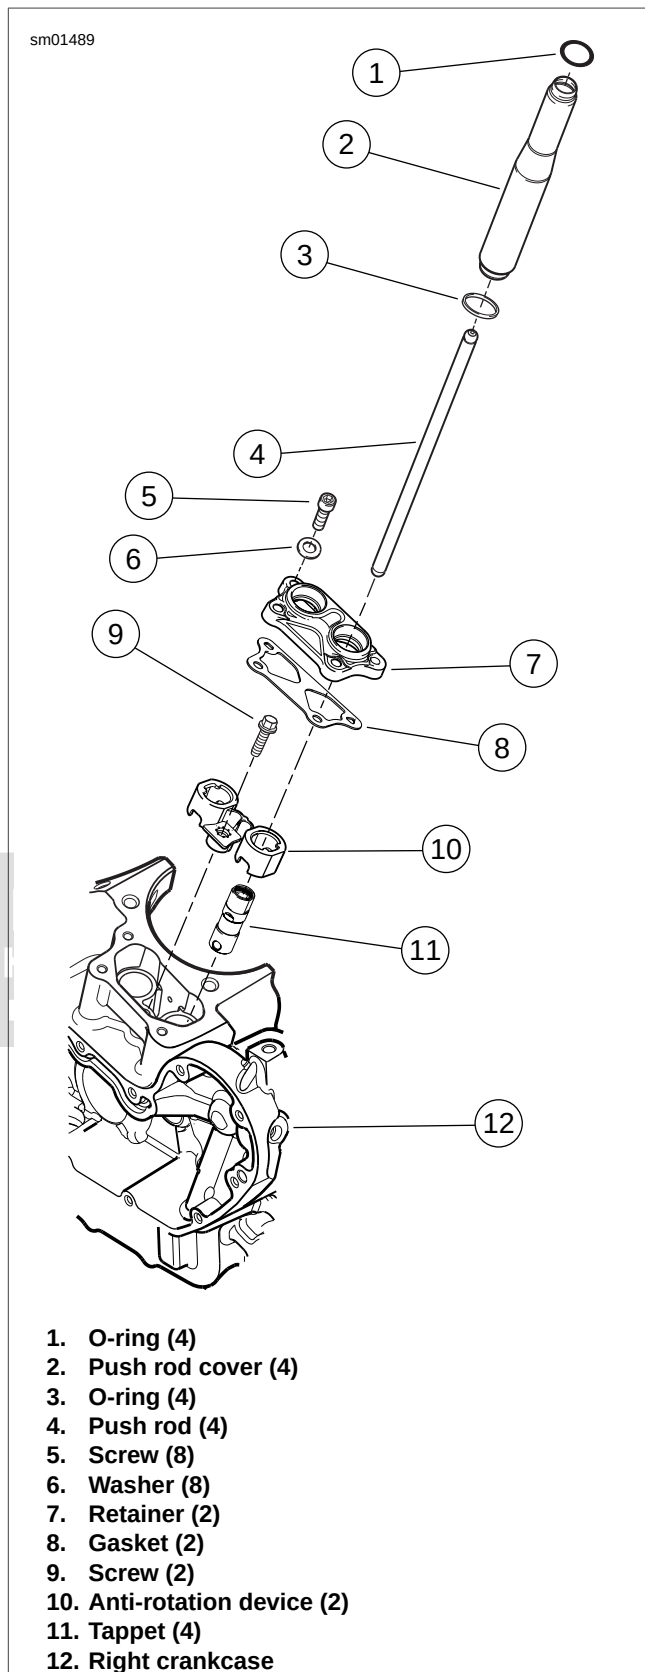

Figure 3-48. Middle Valve Train Components
1. See Figure 3-48. Remove push rod covers (2), o-rings (1, 3) and push rods (4). Mark the location and orientation (top and bottom) of each push rod. Discard o-rings.
2. Remove socket screws (5) and washers (6). Remove retainer (7) and gasket (8). Discard gasket.